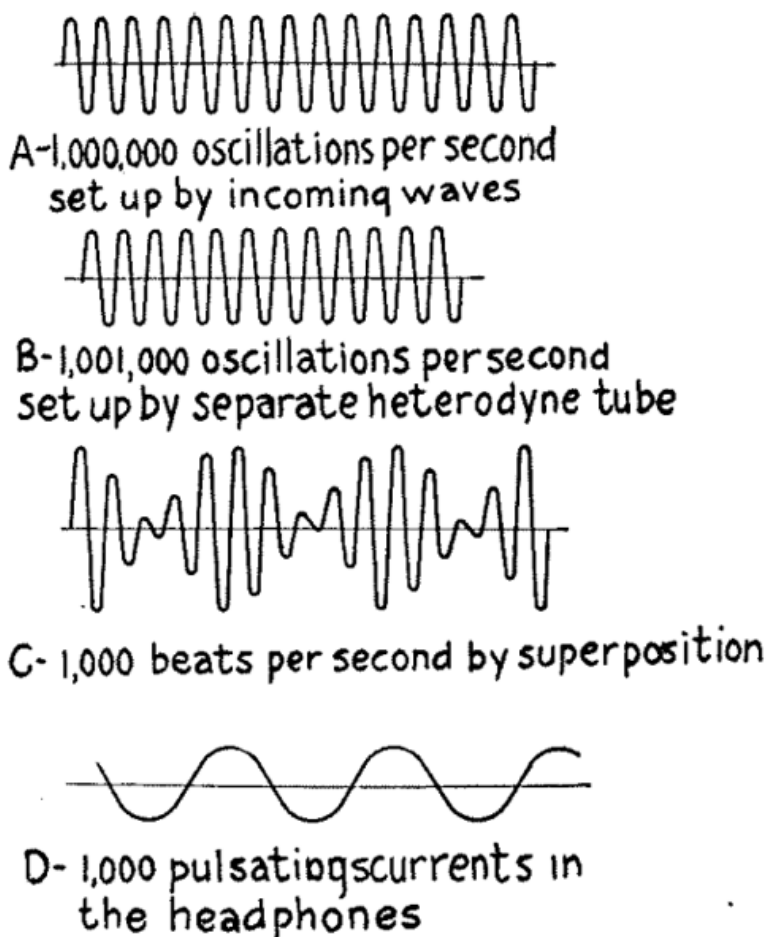

FIG. 73.—How the Heterodyne Receptor Works.
As these rising and falling currents act on the pulsating currents from the B battery which flow through the detector tube and the headphones you will hear them as beats. A graphic representation of the oscillating currents set up by the incoming waves, those produced by the heterodyne oscillator and the beats they form is shown in *Fig. 73*. To produce these beats a receptor can use: (1) a single vacuum tube for setting up oscillations of both frequencies when it is called an *autodyne*, or *self-heterodyne* receptor, or (2) a separate vacuum tube for setting up the oscillations for the second circuit when it is called a *heterodyne* receptor.